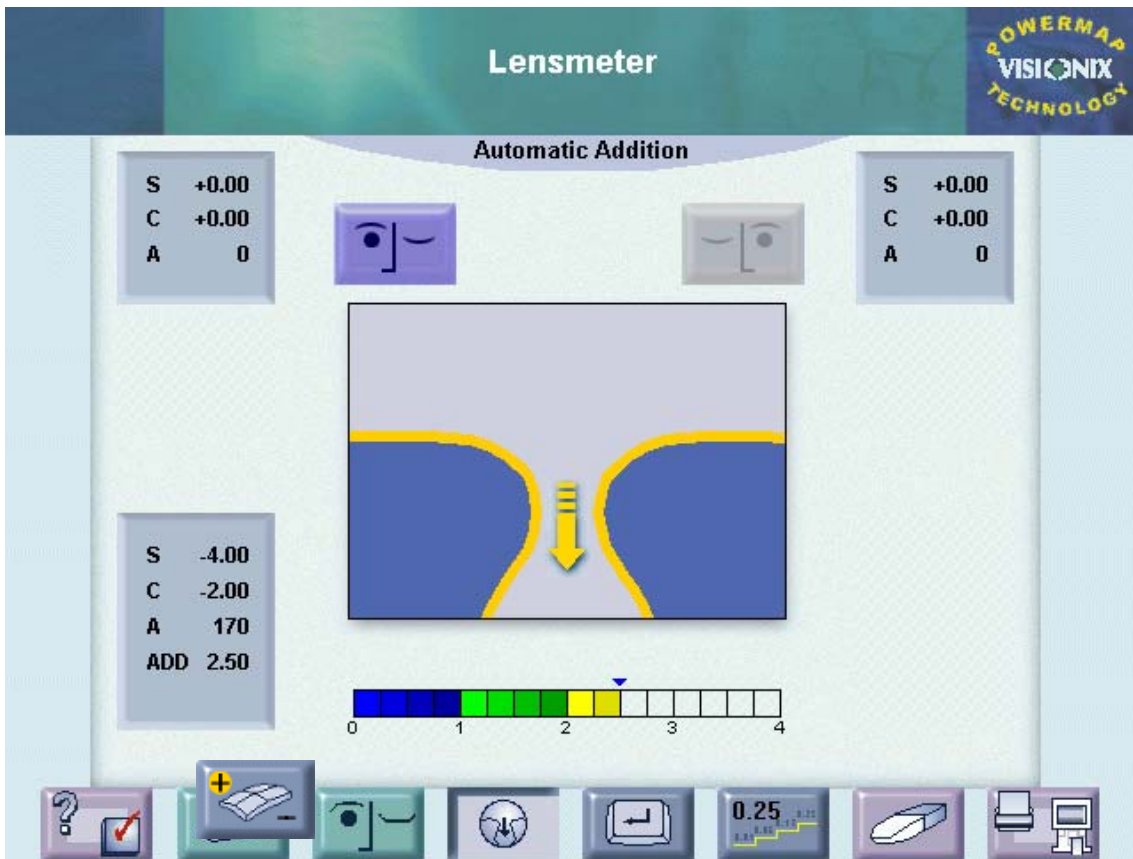

Figure 6
7. Press the **Save** button ; all values are frozen. (see Figure 6).
; all values are frozen. (see Figure 6).